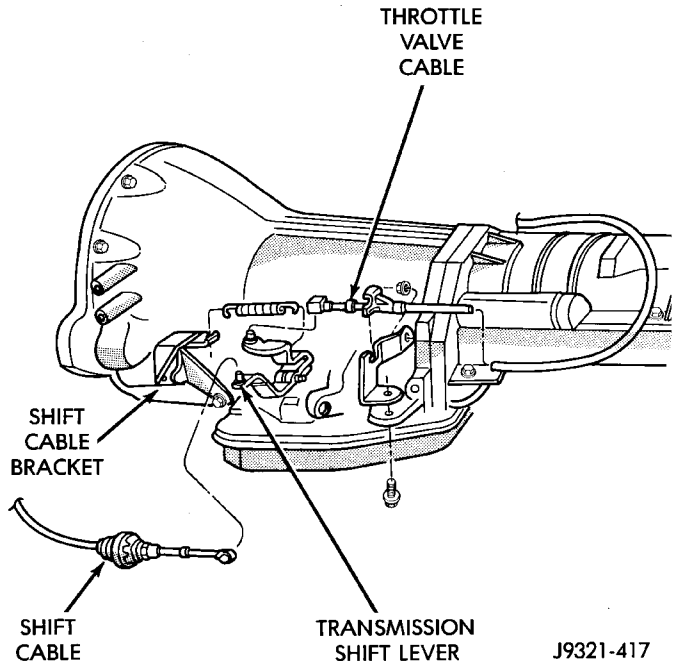

Fig. 260 Shift Cable Attachment At Transmission—Typical
- (1) Shift transmission into Park.
- (2) Raise vehicle.
- (3) Release cable adjuster clamp (at transmission end of cable) to unlock cable.
- (4) Unsnap cable from cable mounting bracket on transmission (Fig. 260).
- (5) Slide cable eyelet off transmission shift lever.
- (6) Verify transmission shift lever is in Park detent by moving lever fully rearward. Last rearward detent is Park position.
- (7) Verify positive engagement of transmission park lock by attempting to rotate propeller shaft. Shaft will not rotate when park lock is engaged.
- (8) Slide cable eyelet onto transmission shift lever.
- (9) Snap shift cable adjuster into mounting bracket on transmission.
- (10) Lock shift cable by pressing cable adjuster clamp down until it snaps into place.
- (11) Lower vehicle and check engine starting. Engine should start only in Park and Neutral.